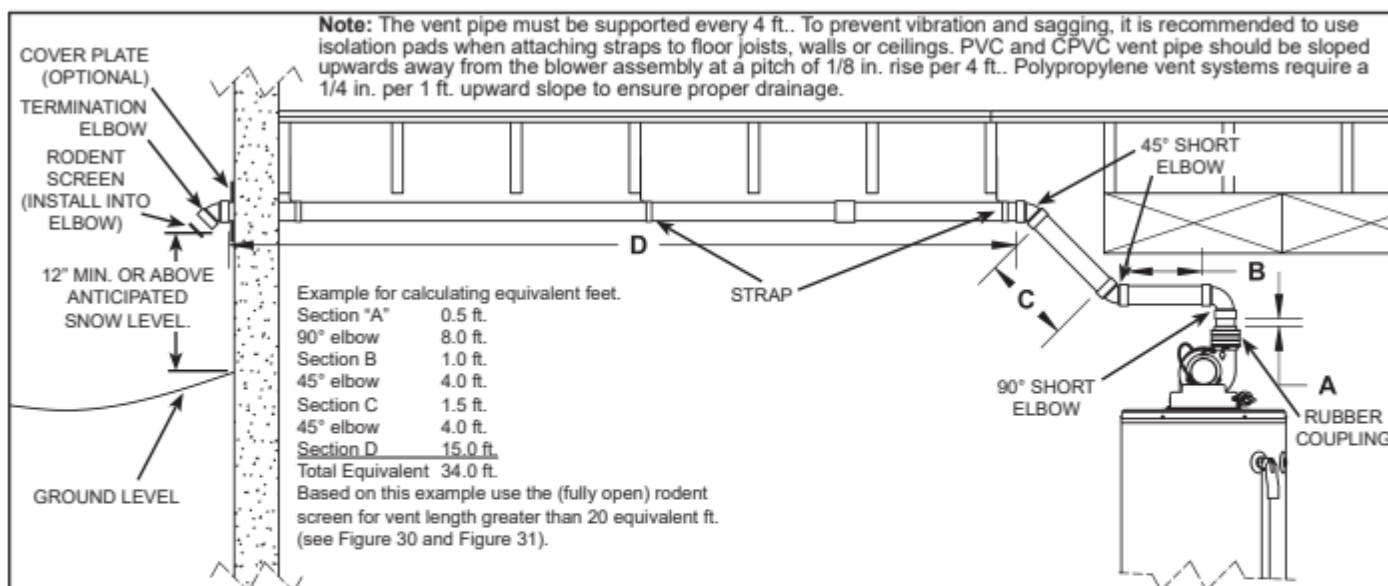
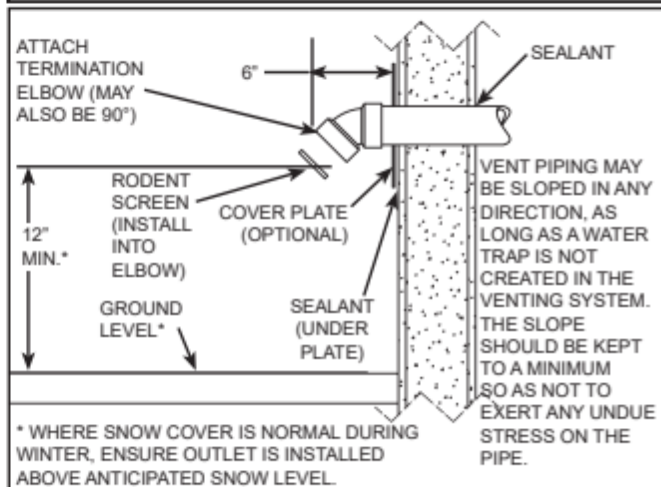
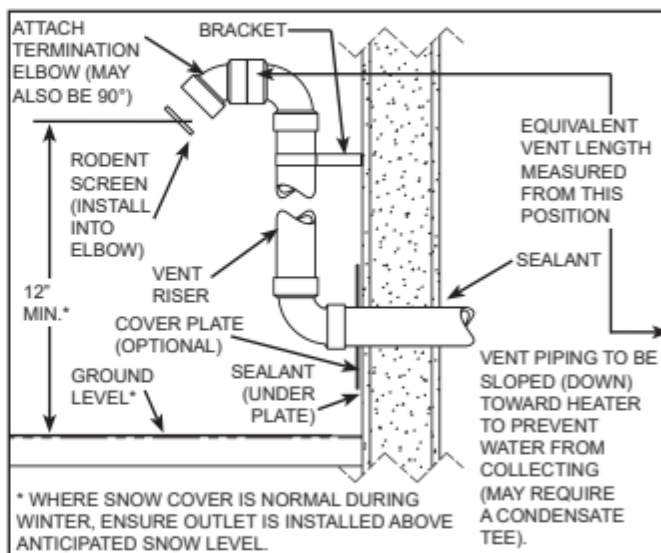
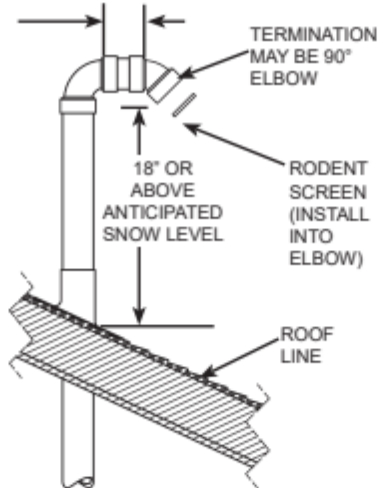

Figure 32.
Figure 33.
Figure 34.
Figure 35.
This heater is designed to exhaust the products of combustion (flue gases) to the outdoors using a sealed piping system. Table 3 lists the allowable vent materials and sizing information. Figure 32 shows the general venting layout while Figure 36 through Figure 40 show various end termination details and clearances. Connection of the venting piping to the blower is shown in Figure 36 through Figure 40.
- Refer to Figure 32 and Table 3 for vent pipe materials and sizing. Examples of the vent terminations are shown in Figure 33 and Figure 34. If the installation requires a vent riser, suitable drainage must be provided to ensure condensation does not accumulate. Termination through a roof is shown Figure 35.
Installed in the vent termination elbow, the vent screen is required to keep foreign objects, rodents and small birds from entering the venting system. These screens have been sized to ensure maximum energy efficiency of the vent system based on the "equivalent length" of the vent piping. **CHOOSE ONLY the ONE SCREEN THAT MATCHES YOUR VENTING CONFIGURATION** (see Figure 30 and Figure 31). How to determine the "equivalent length" is shown in Figure 32 and in Table 3.
5. Calculate "Equivalent Vent Length" before starting. Do not exceed the values shown in Table 3. An example of how this length is determined is shown in Figure 32. The value from your calculations should also be used to determine which rodent screen to install into the vent termination elbow.
9. Insert the vent piping through this hole and secure into position. Connect the vent pipe to the end termination elbow as shown in Figure 33 through Figure 35.